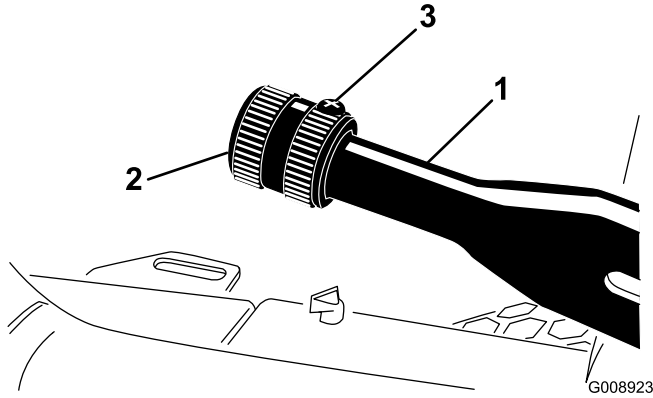

Figure 54
1. Loosen the set screw securing the knob to the parking brake lever (Figure 54).